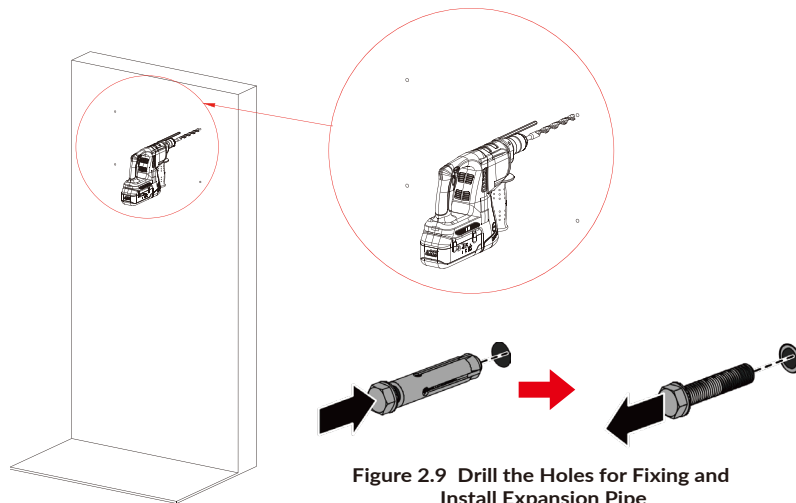

Figure 2.9 Drill the Holes for Fixing and Install Expansion Pipe
Step 4 Drill holes at the position using a percussion drill (M12 drill, depth of hole: 70mm). After drilling, put the 4 expansion bolts into the hole and take out the expansion screws as shown in Figure 2.9.